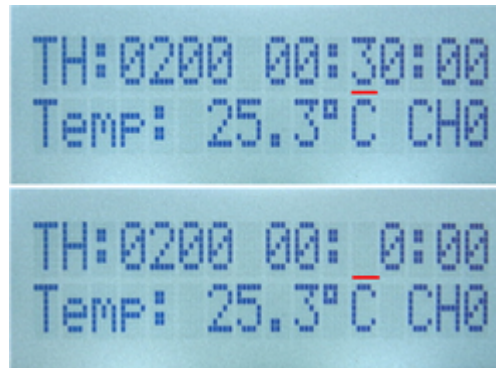

Figure 9. Set Timer
1. When SW2 is pressed at the first time, the ADS1118 Booster Pack enters time setup mode. The tens bit of the minutes flashes, as shown in Figure 9.